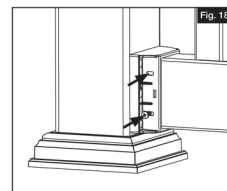

Fig. 18
- Install #10 x 1" screws in all pre-drilled holes (Fig. 18).